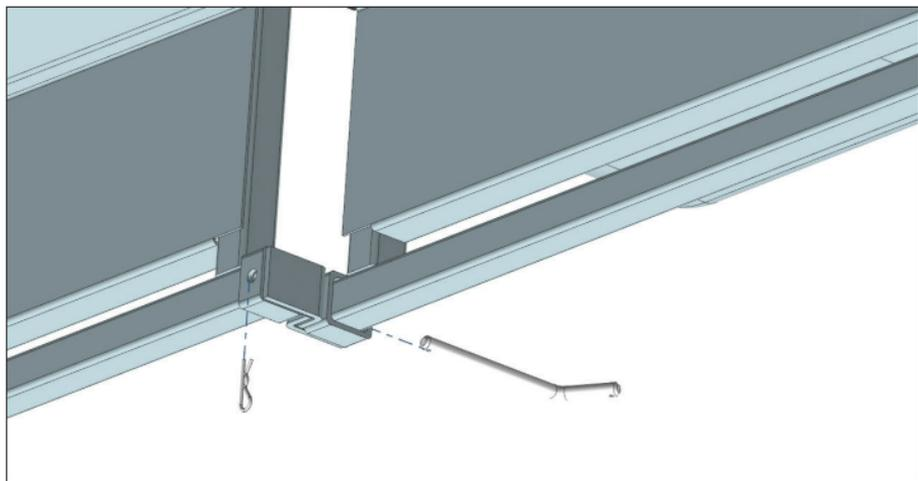

Figure 2: Remove the hitch pins
- 3.1. Remove the hitch pins from the front section. Fig. 2
Remove both hitch pins from the front section and both hitch pins from the rear section. Fig. 2 and Fig. 3